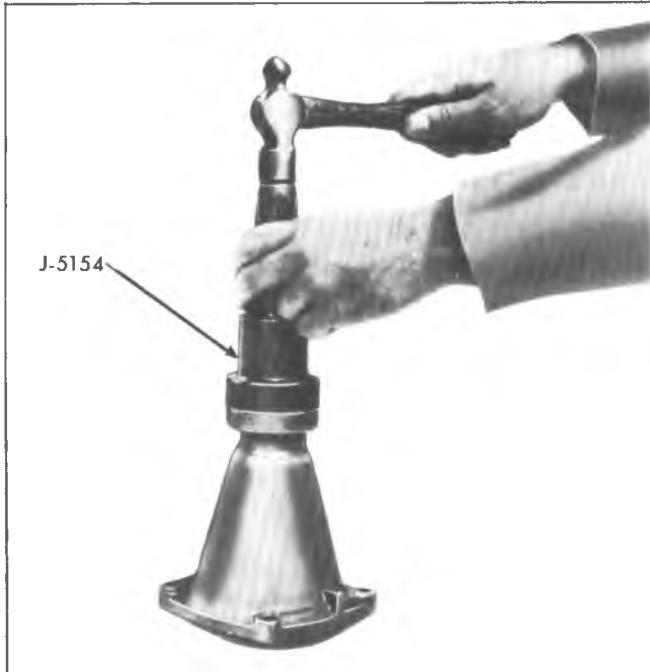

Fig. 7A-16—Installing Oil Seal into Extension Housing
24. Disconnect transfer case-to-transmission strut rod. Remove transfer case from transmission (includes: new "O" ring seal). Refer to Fig. 7A-15.